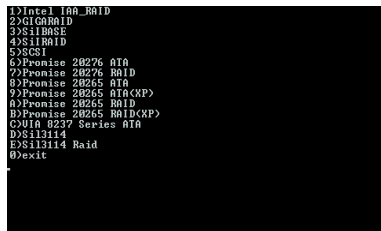
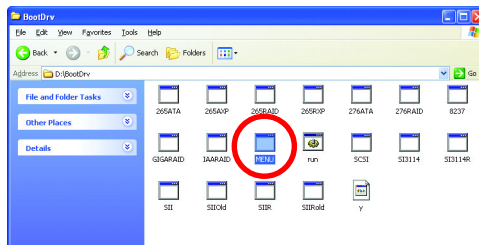

Figure 14
Figure 15
Step 2: When the controller menu (Figure 14) appears, remove the startup disk and insert the blank formatted disk. Select the controller driver by pressing the corresponding letter from the menu.
For example, from the menu in Figure 14, press C to select **VIA 8237 Series ATA** for Windows operating system. Your system will then automatically zip and transfer this driver file to the floppy disk. Press 0 to exit when finished.
Use an alternative system and insert the GIGABYTE motherboard driver CD-ROM. From the CD-ROM drive folder, double click the **MENU.exe** file in the **BootDrv** folder (Figure 15). A command prompt window will open similar to that in Figure 14.